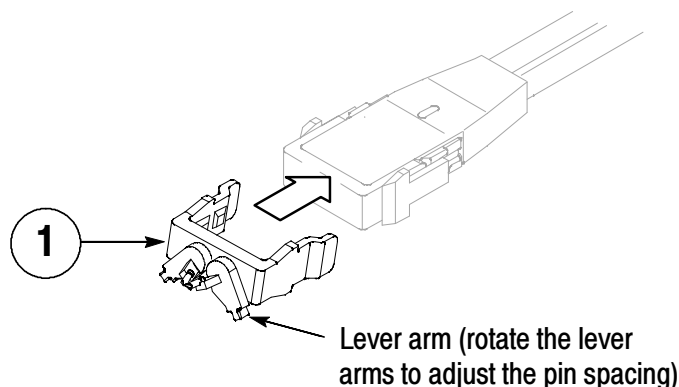

Figure 14: Variable Spacing Tip-Clip Assembly
1. Attach the Variable Spacing Tip-Clip Assembly to the probe tip (see Figure 14 on page 20). Although the Tip-Clip is insensitive to mechanical attachment polarity, the probe measurement polarity will be affected by the polarity of the probe input contacts connected to the Variable Spacing Tip-Clip.